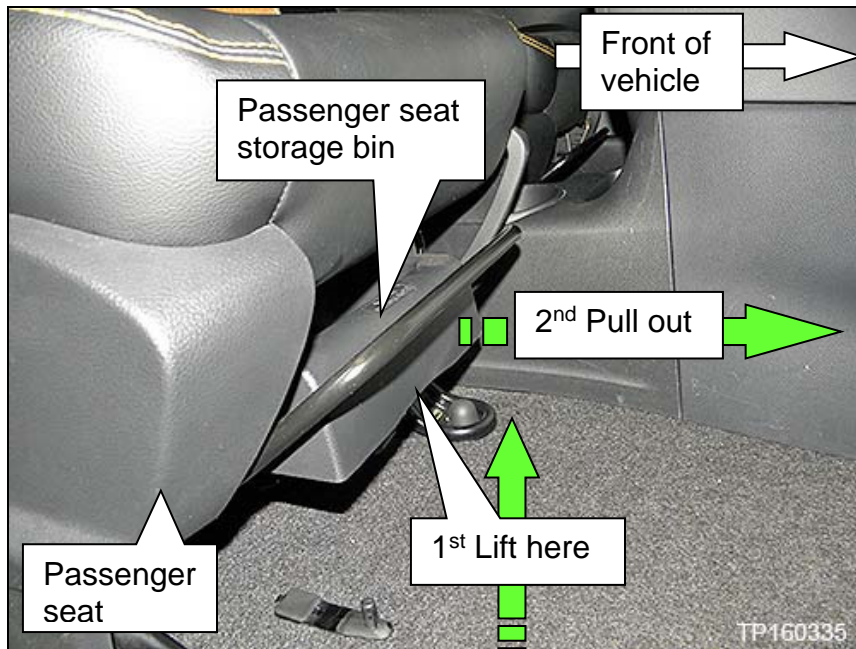

Figure 7
- Lift UP to unlock and then pull straight out all the way (Figure 7).